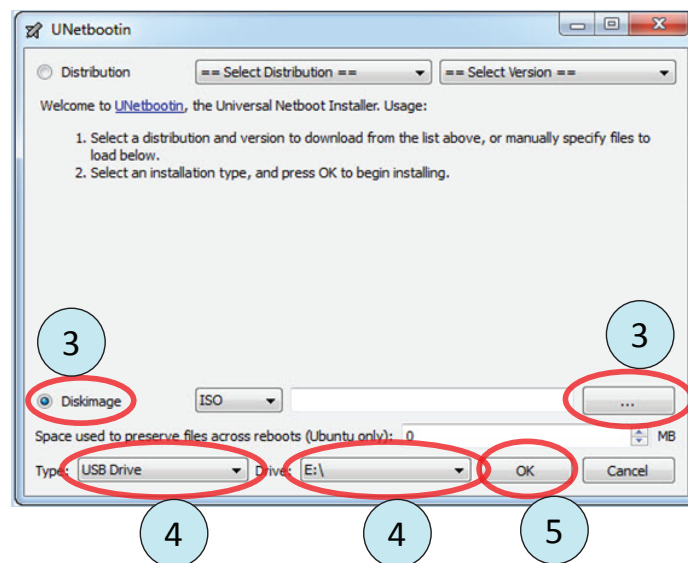

Figure E8. Initial UNETBOOTIN application window.
- 2) Run the UNETBOOTIN application. The UNETBOOTIN window (shown in figure E8) will open.
- 3) Select the **Disk Image** option, then click the '...' button (both are circled in figure E8). Locate and select the Dialed In ISO file you downloaded from the Jersey Jack Pinball® website.
- 4) Ensure that the **USB Drive** is selected under **Type** and the USB stick you inserted earlier ("E:\") is selected under **Drive** (both are circled in figure E8).